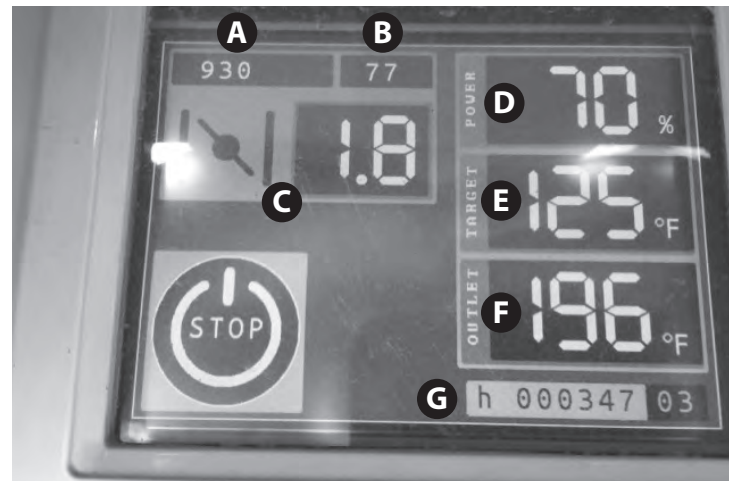

Figure 4.14
9. Once the fan has started, the "Run" screen will appear (Figure 4.14). The following information will be displayed:
- o (A) Barometric pressure in millibar.
- o (B) Ambient temperature in degrees Fahrenheit.
- o (C) Damper setting
- o (D) Efficiency of the heater unit in percentage.
- o (E) Target outlet temperature in degrees Fahrenheit.
- o (F) Actual outlet temperature in degrees Fahrenheit.
- o (G) Total hours on the heater unit.